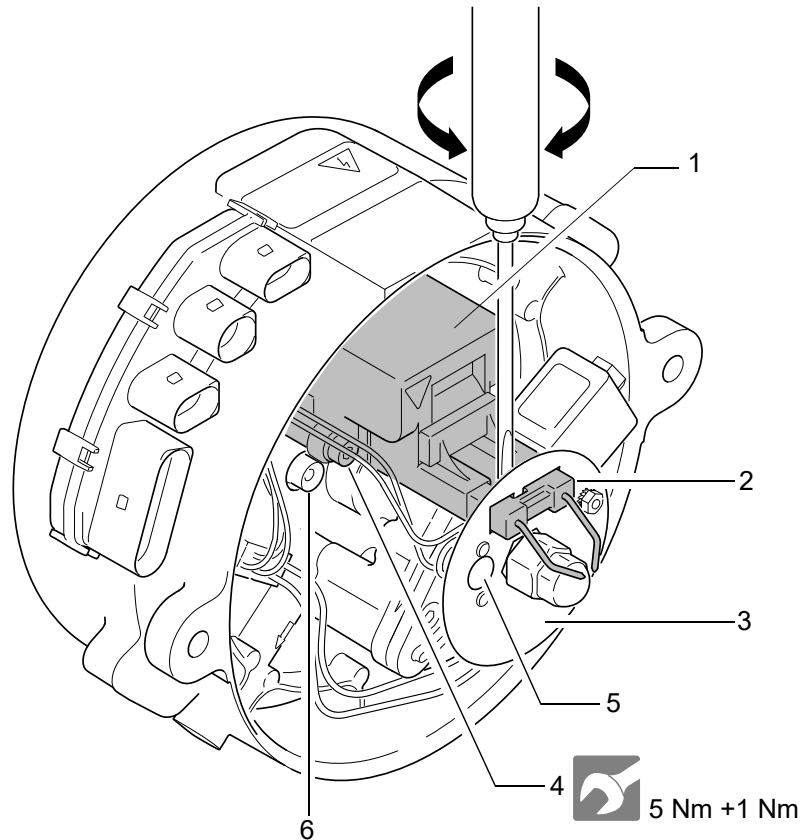
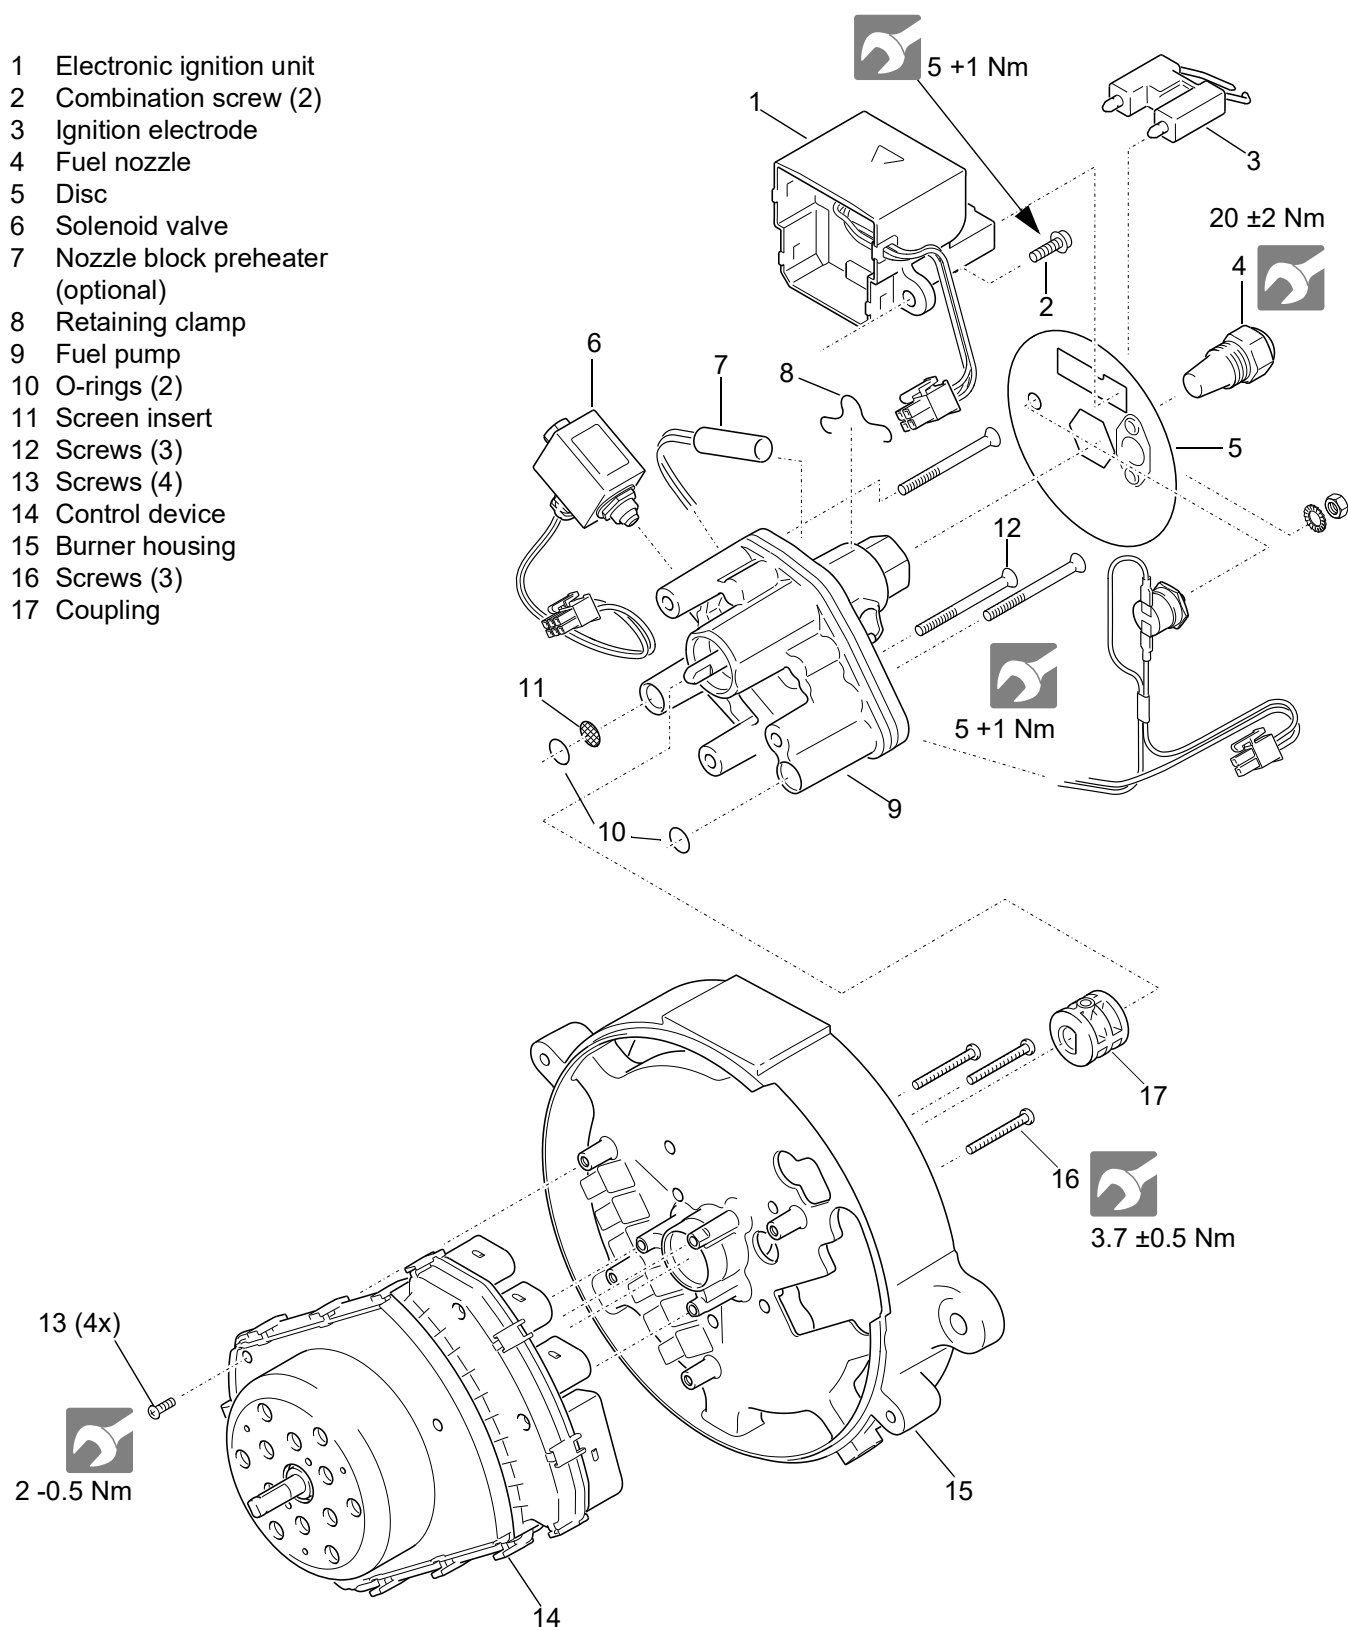
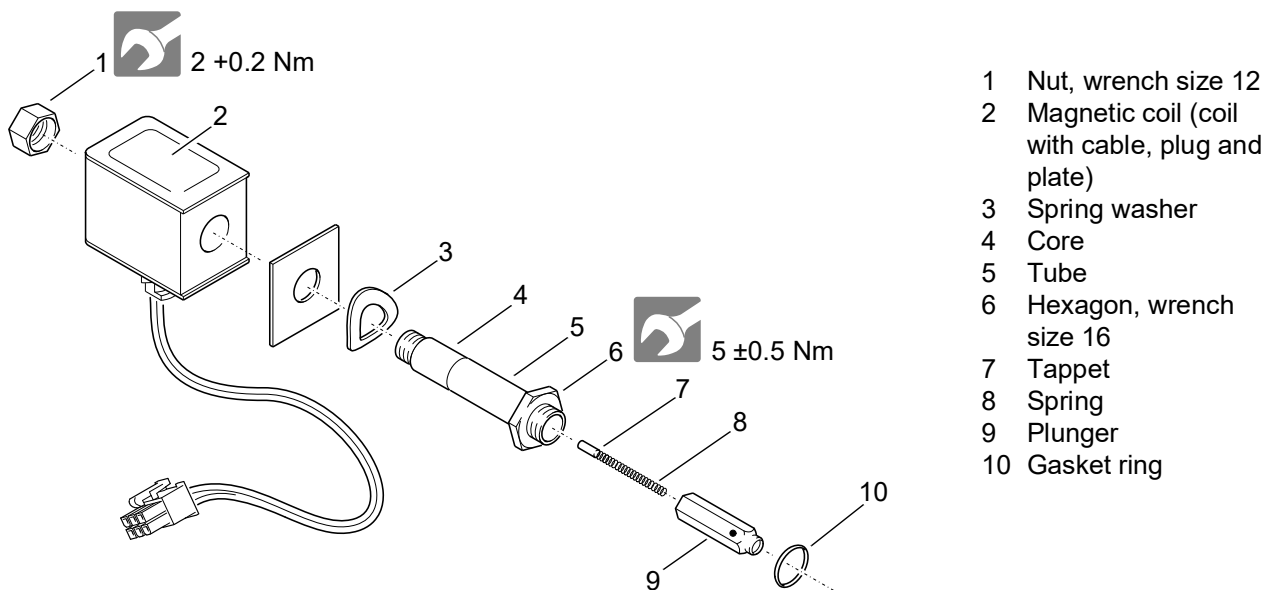

Fig. 804 Electronic ignition unit / ignition electrode removal and installation
Fig. 805 Components removal and installation
Fig. 806 Solenoid valve removal and installation
2. Lift off ignition electrode from the electronic ignition unit by twisting a screwdriver sideways (see Fig. 804) and remove it.
3. Remove the disc (3) from the nozzle holder.
5. Remove the combination screws (4).
6. Pull electronic ignition unit (1) off and remove it.
1. Bring electronic ignition unit (1, Fig. 804) into installation position and secure with combination screws (4).
3. Fit the disc (3) onto the nozzle holder of the fuel pump (9, Fig. 805) and align it so, the ignition electrode (2, Fig. 804) may be inserted into the electronic ignition unit.
4. Insert ignition electrode (2, Fig. 804) into the electronic ignition unit.
- 4 Screws (2)
2. If necessary remove the coupling (17, Fig. 805) from the shaft of the burner motor.
4. Remove the 4 screws (13), securing the control device to the burner housing.
5. Remove the 3 screws (16), securing the burner motor to the burner housing.
6. Remove the control device (14) from the burner housing (15).
1. Position the control device (14, Fig. 805) onto the burner housing.
2. Screw in the 3 screws (16), securing the burner motor to the burner housing and tighten them.
3. Install the 4 screws (13), securing the control device to the burner housing and tighten them.
5. Put the coupling (17, Fig. 805) onto the shaft of the burner motor.
2. Remove disc (3, Fig. 804).
5. Remove and discard the 3 screws (12, Fig. 805), securing the fuel pump to the burner housing.
6. Remove the fuel pump (9) incl. solenoid valve (6).
7. Remove and discard the O-rings (10) and the screen insert (11).
8. If necessary remove the solenoid valve (6) from the fuel pump (9) (see 8.9).
- 2 Combination screw (2)
1. If necessary, install solenoid valve (6, Fig. 805) onto the fuel pump (9) (siehe 8.9).
2. Install new O-rings (10) and a new screen insert (11) into the fuel pump (9).
3. Align the fuel pump (9) with the burner housing (15) and bring it into installation position. Before doing this, align if necessary the coupling (17) by rotating it on the burner motor shaft.
4. Mount the fuel pump (9) using 3 new screws (12, with coated threads) and tighten them.
5. Reconnect the solenoid valve (6) plug to the control device (14).
7. Install disc (3, Fig. 804).
2. Lift off ignition electrode (3, Fig. 805) from the electronic ignition unit by twisting a screwdriver sideways (see Fig. 804) and remove it.
3. Remove disc (5, Fig. 805).